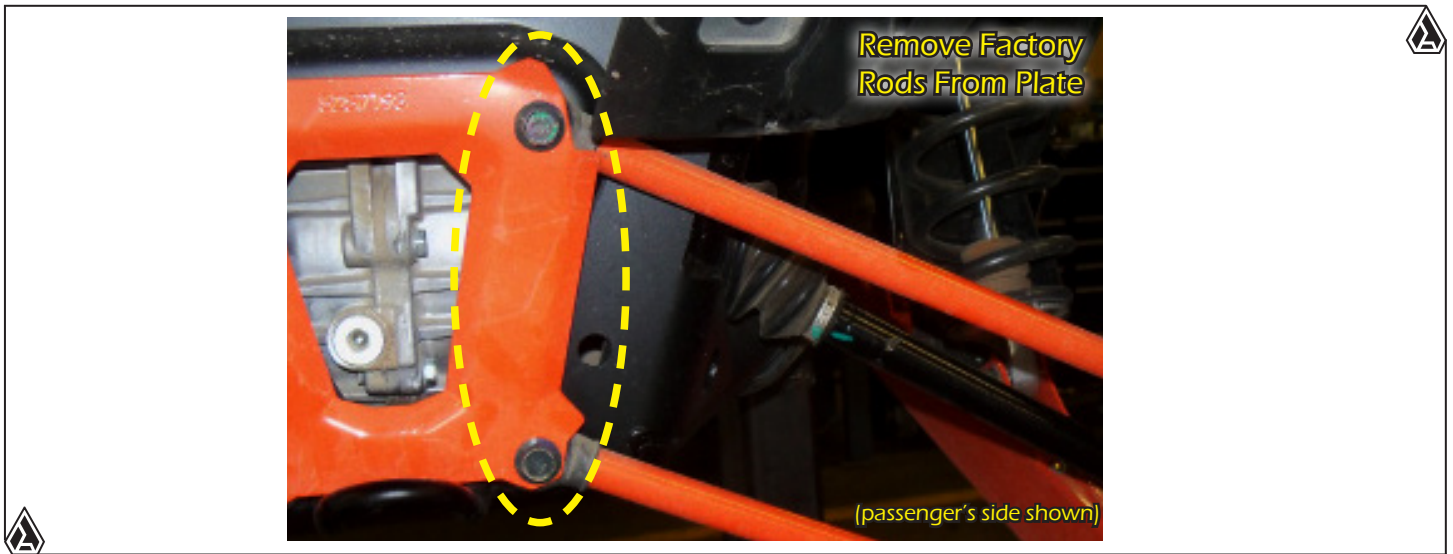
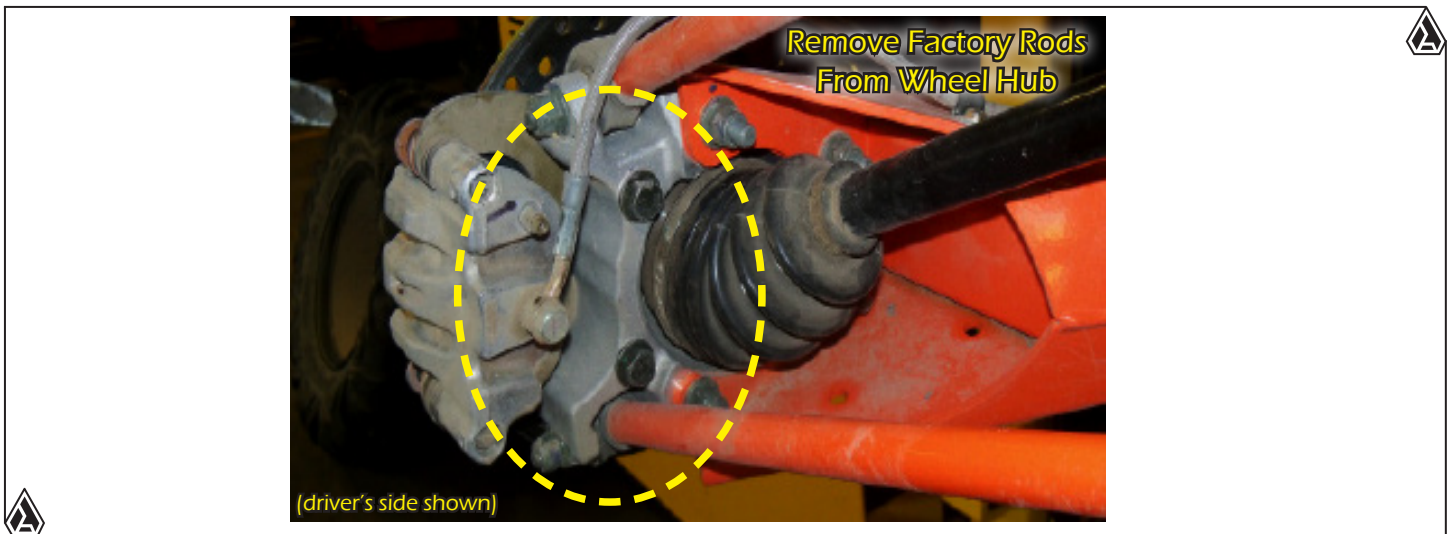

FIG.2A
FIG.2B
2. Remove Factory Radius Rods and Brace Plate from Frame, **Fig.2A**, then remove Factory Radius Rods from Wheel Hub as shown in **Fig.2B**.